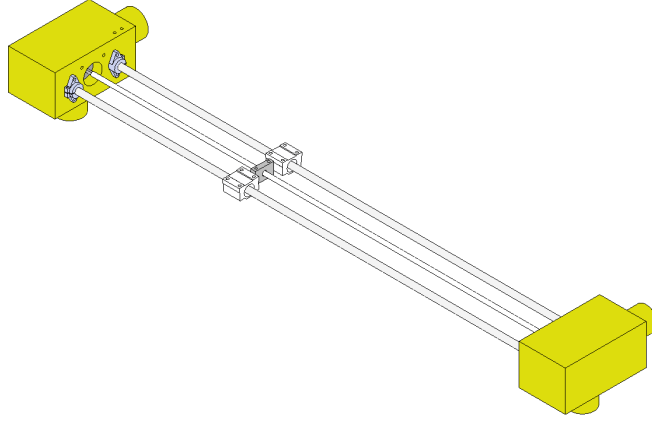

Figure 15: Right Y-Axis assembly for the GPR-20 robot.
9. This step will make use of both the *Y-Axis right driver* and *Y-Axis right auxiliary support* assemblies. Attach two (2) linear rods to the SHF12 supports in the *Y-Axis right auxiliary support*. Secure them by adjusting the tightening screw of the SHF12 supports. Attach the eight (8) millimeter lead screw to the KFL08 bearing and secure it by adjusting the bearing tightening screws. Roll a SC12UU bearing on each linear rod and screw a T8 nut housing with the nut installed in the lead screw. Attach the linear rods into the SHF12 supports from the *Y-Axis left driver* and secure them with the tightening screws. Attach the lead screw to the motor shaft using a coupler. Figure 15 presents the assembly of the right Y-Axis.